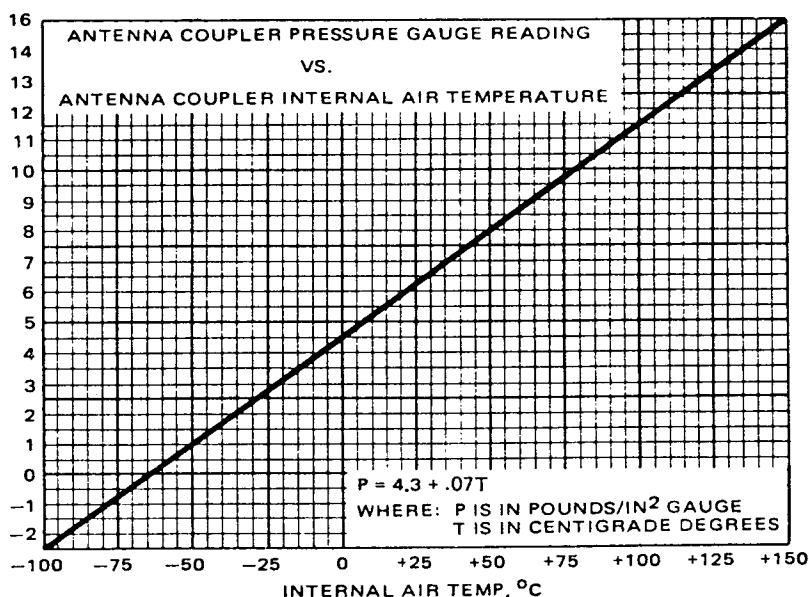

Figure 5-12. Coupler Charging Pressure vs. Temperature
- f. Pressurize the coupler to 6 psig if the internal gas is at room temperature (approximately 25 degrees C). If the internal gas is not at room temperature, pressurize according to the formula: $P = 4.3 + .07T$, where P is in psig, and T is the gas temperature in Celsius degrees (refer to figure 5-12).
An RF-636 Dry Air pump is available as an optional accessory. The pressure vs. temperature chart (figure 5-12) applies to dry air, as well as dry nitrogen. The following procedures give instructions for leak testing, and pressurizing the coupler with dry air.